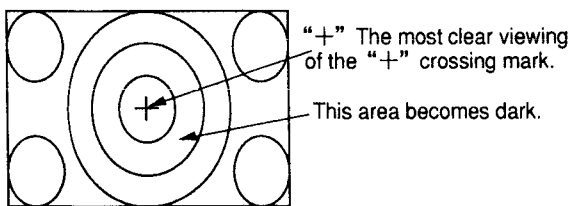

Fig. 3
- 5) Adjust the BLUE FOCUS VR of the focus pack to view the "+" crossing marks most clearly at the center of the monoscope screen. (Fig. 3)